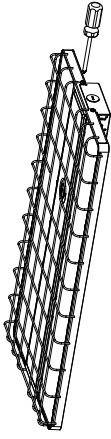

Figure 7
- 1.Wire Guard: (Purchase the correct size wire guard from manufacturer) Place the wire guard on the lamp and fix it with screws. (Figure 7)